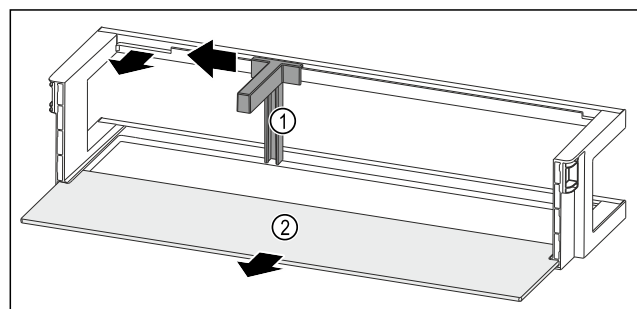

Fig. 243 Door rack with bottle holder and shelf
- ▶ Slide the bottle holder Fig. 243 (1) to the side as far as the recess.
- ▶ Remove the bottle holder Fig. 243 (1).
- ▶ Remove the shelf Fig. 243 (2).